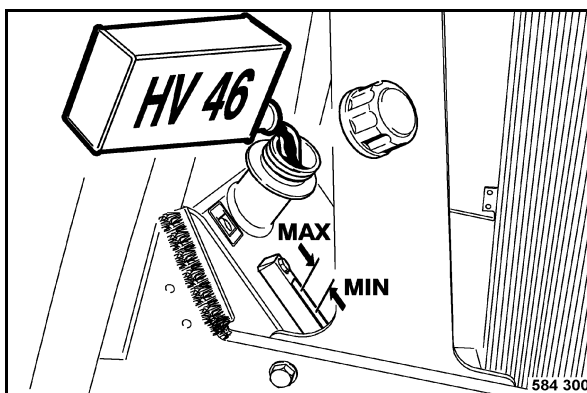

Fig. 125
- Check the hydraulic oil level in the inspection glass (Fig. 125).